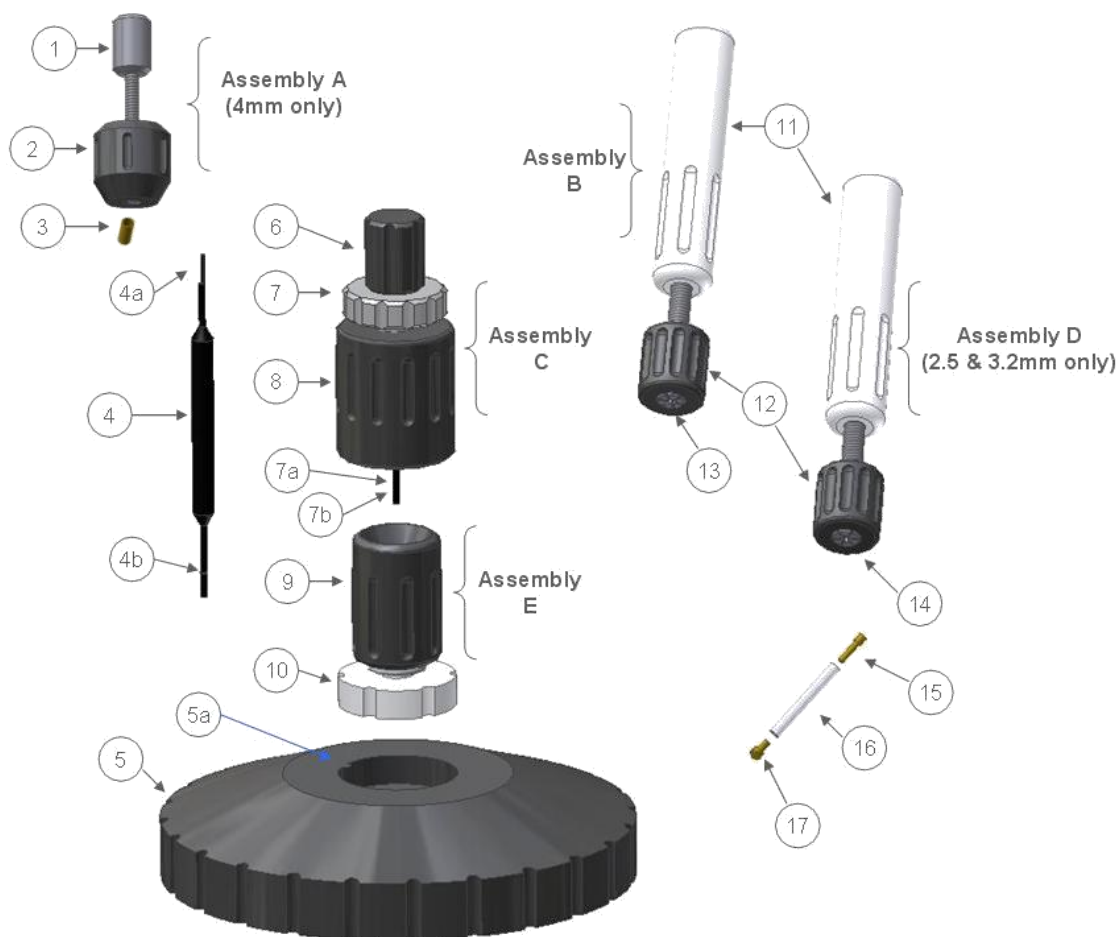

Figure 1, Sample packing system.
1. **Drive cap removal** (See figure 1 and 2).
2. **Top cap removal for 2.5 & 3.2mm rotors** (See figure 1 and 2).
- 2.8. Loosen the **compression nut (12)** until the **top cap (15)** is released. Be careful not to spill your sample.
3. **Top cap removal for 4.0mm rotors** (See figure 1 and 3).
4. **Sample removal method one** (See figure 1 and 4).
5. **Sample removal method two** (See figure 1 and 5).
6. **Sample removal method three** (See figure 1 and 6).
7. **Drive cap, sample, and top cap insertion** (See figure 1 and 7).